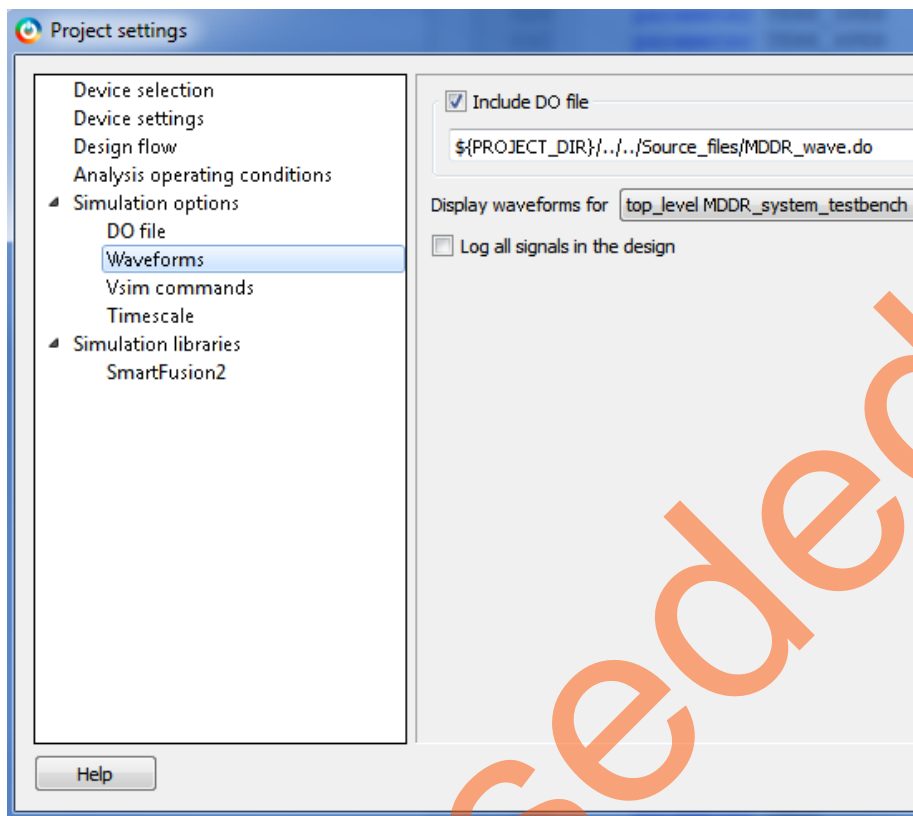

Figure 37. Project Setting – Specifying the MDDR_wave.do File Location
- Select **Include DO file**, browse to where you extracted the provided source files, and select **MDDR_wave.do** file, as shown in Figure 37. In this file, the list of signals that are required is already selected so you can check for the expected results.